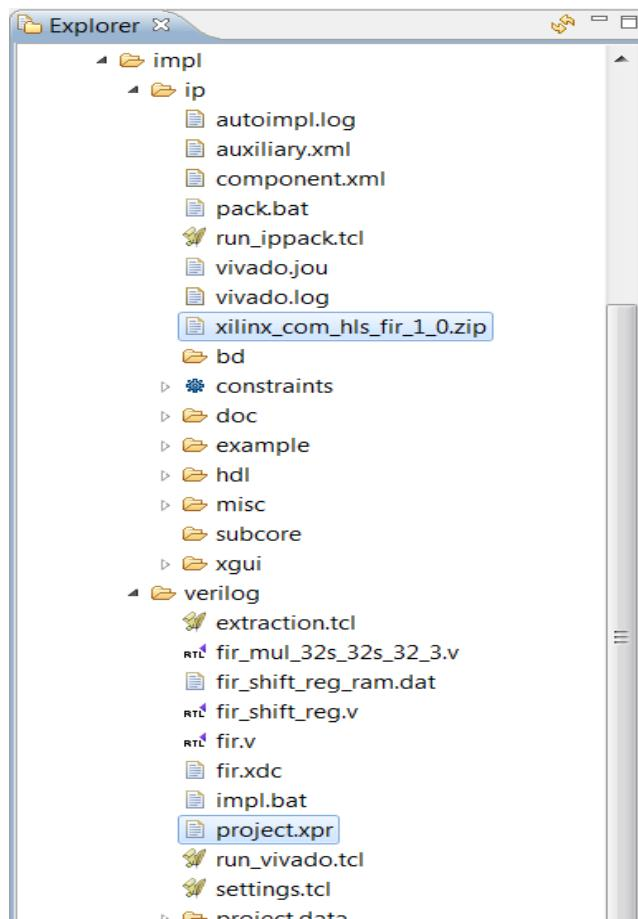

Figure 2-15: RTL Verification Results
6. Expand the **ip** folder and find the IP packaged as a zip file, ready for adding to the Vivado IP Catalog (Figure 2-15).
Note: In Figure 2-15, if you expand the Verilog or VHDL folders inside the `impl` folder, there is a Vivado project ready for opening in the Vivado Design Suite.